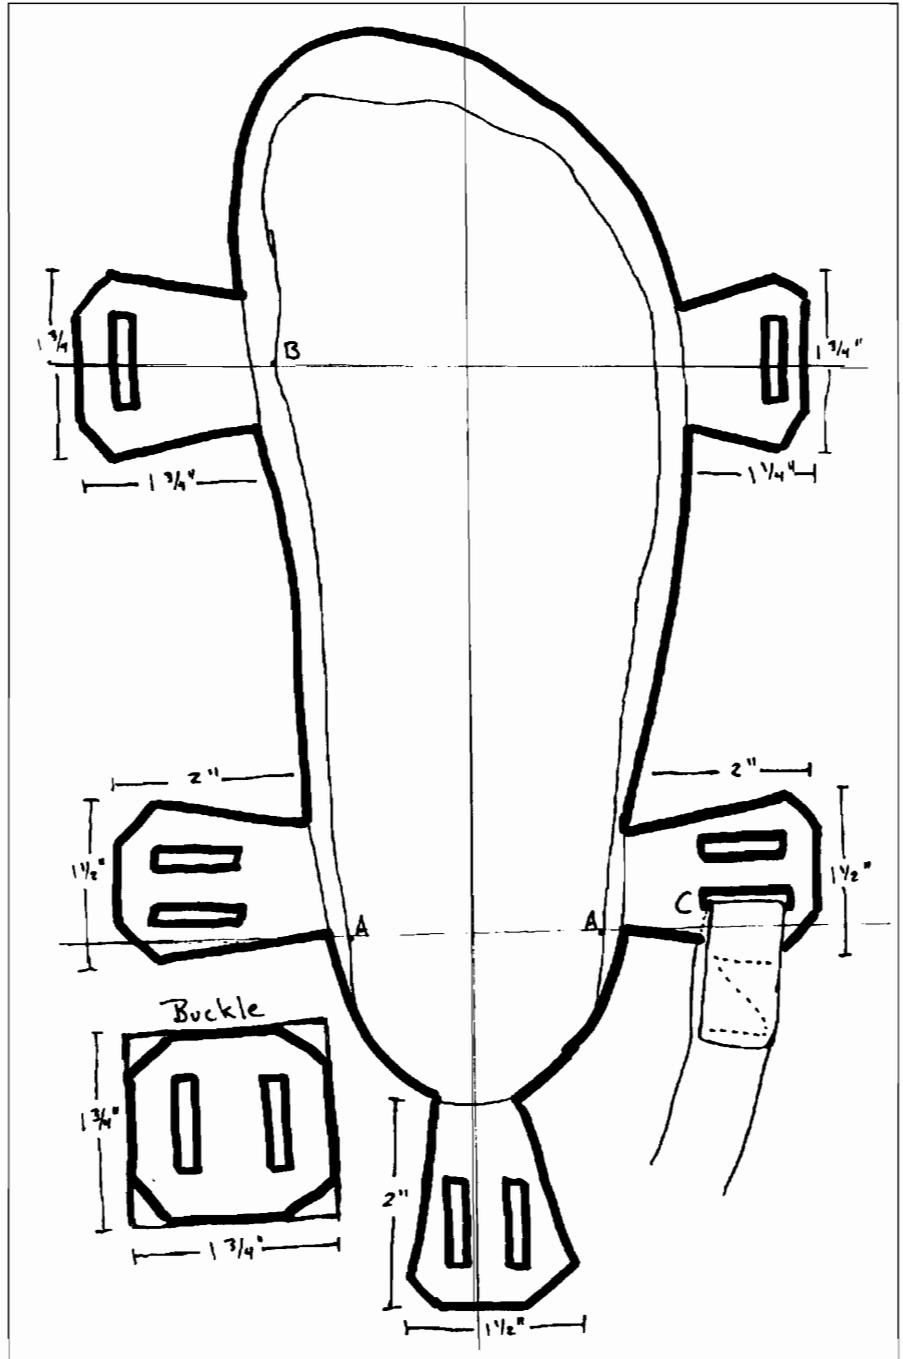

Figure 10-27. Tire sandal pattern. Source: Illustration from *Participating in Nature*, 1999, by Thomas J. Elpel.
Use the pattern shown in Figure 10-27 as a rough guide. Start by tracing the outline of your foot on a piece of paper. Add about $\frac{3}{8}$ " to the front and sides, but not the heel area. Make two marks at the centers of your ankle bones (A) and a mark at the side of the ball of your foot, directly behind your big toe (B). Draw lines through these points, as shown in the pattern, to help you locate the strap loops. The strap loops are designed for $\frac{3}{8}$ "-wide webbing. If you use a different size of strap material, adjust and customize your pattern as necessary to fit your foot. Cut out your pattern as you would a paper doll and lay it on the tire to mark the outline for cutting the rubber (Elpel 1999, 134).